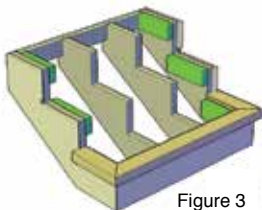

Figure 3
- **TIP:** Remove screw from clip and re-drive at 45° angle to avoid driver interference with stringer (fig. 3)